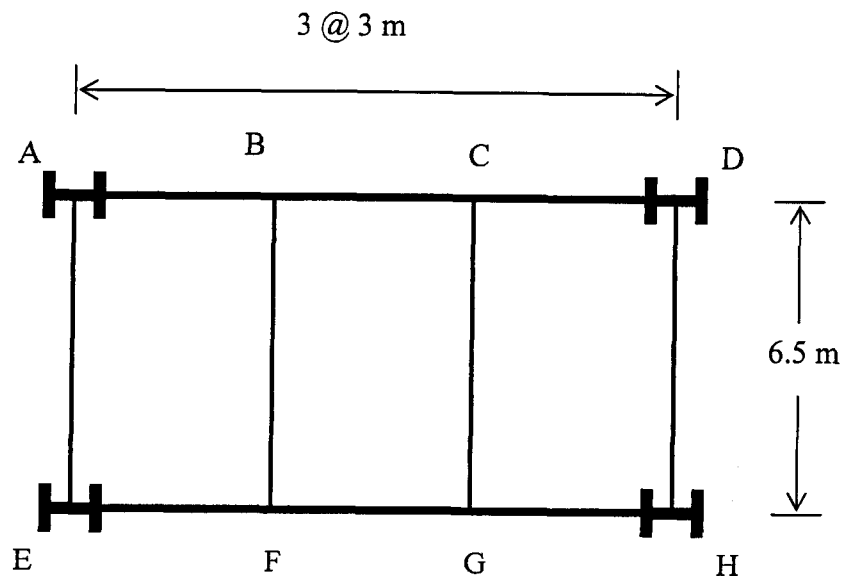

Figure 5.0/Rajah 5.0
4. (a) The floor system of a building consists of a 100 mm thick reinforced concrete slab resting on four steel floor beams, which in turn are supported by two steel girders, as shown in **Figure 5.0**. The cross-sectional areas of the floor beams and the girders are 0.00948m^2 and 0.03374m^2 , respectively. Determine the dead loads acting on the beams CG and DH and the girder AD. The unit weight of reinforced concrete is 23.6 kN/m^3 and the unit weight of steel is 77 kN/m^3 .